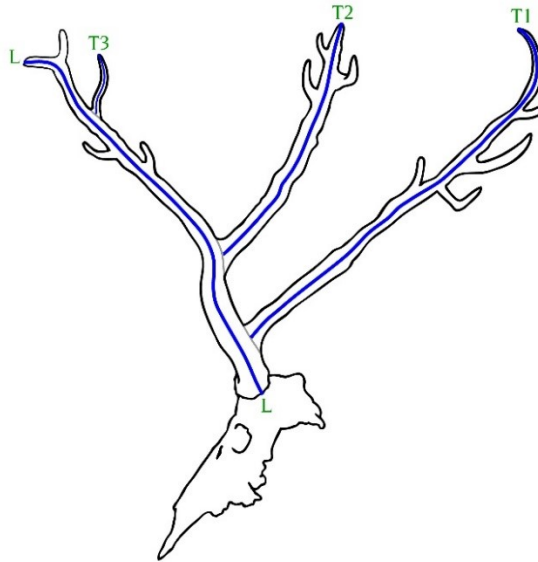

Figure 2
2. Tines. Measure the length of only the three longest tines besides the main beam. (Figure 2, T1, T2, and T3) Almost always, one of these three will be the tine that points rearward on the first “Y.” (Figure 2, T1) The second longest tine (Figure 2, T2) typically branches rearward from the main beam on the second “Y,” and the third longest tine normally occurs on the main beam above the second “Y” junction. (Figure 2, T3) Remember, configurations with this deer vary widely and the description above is generally true but not always. When measuring tines, do not include any part of the main beam antler. Measure each tine from the point to the baseline. Do not measure any other tines for length.